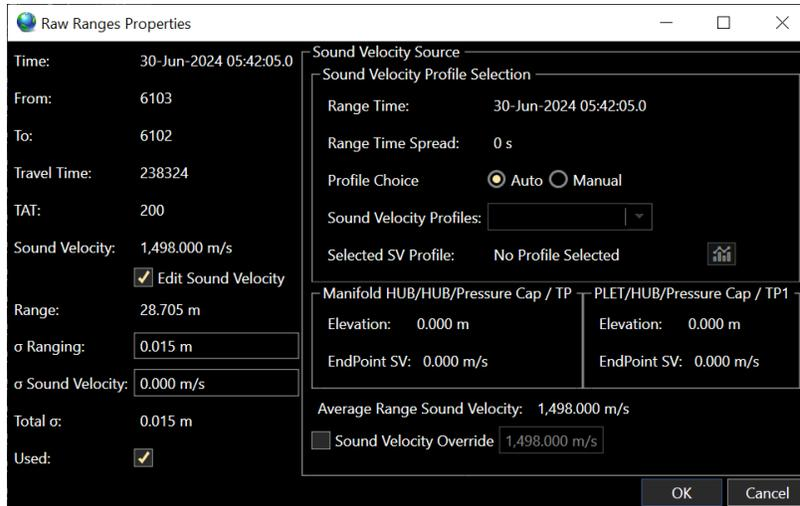

FIGURE 75 PROFILE CHOICE – AUTO
- Auto Sound Velocity Profile:** To use an automatically selected Sound Velocity Profile, uncheck the sound velocity override and leave the profile choice on “Auto”. The auto option will choose the sound velocity profile with the time closest to the range time. See Figure 75.